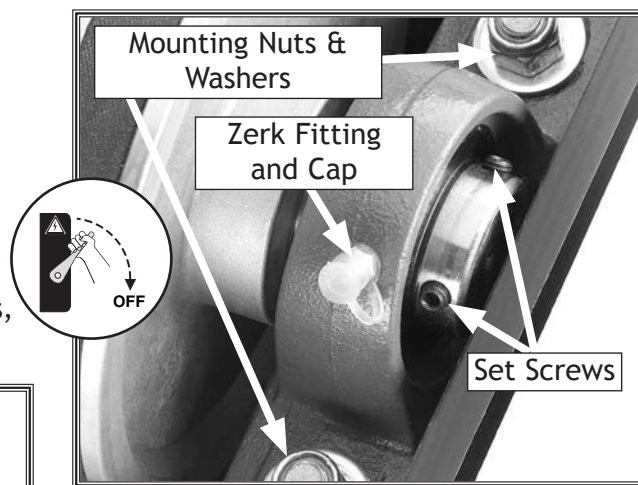

Figure 42. Pillow bearing mounting nuts, washers, and set screws.
2. Open the top cover, and remove the mounting nuts, washers, and set screws shown in **Figure 42**.
9. Insert the new bearing into the bearing housing so the set screws and hub are on the same side as the grease Zerk on the bearing housing (**Figures 42 and 46**).